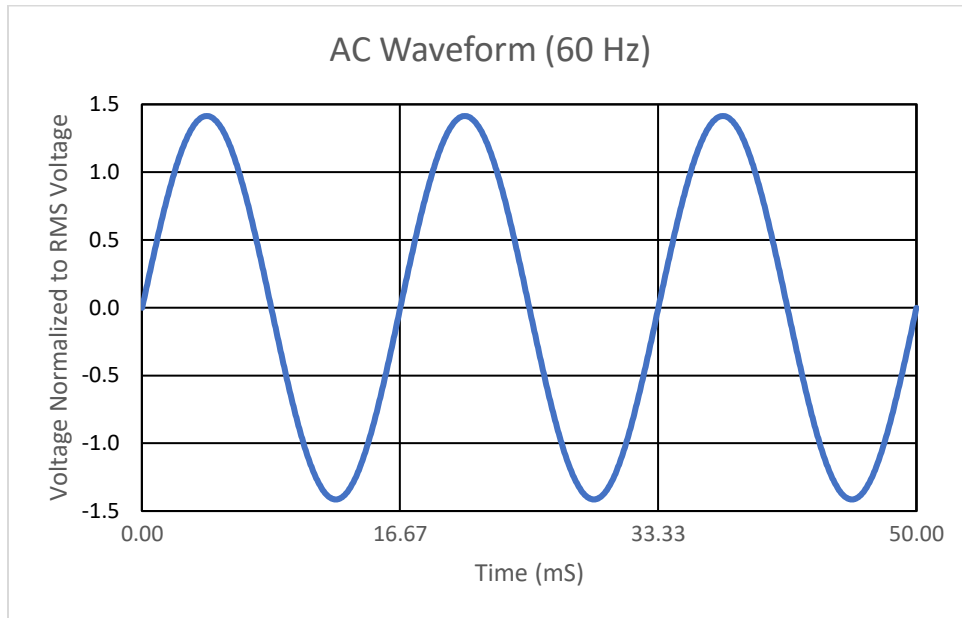

Figure 5: AC Voltage Waveform
In an alternating current (AC) system, the voltage source varies over time following a sinusoidal waveform as shown in Figure 5.
RMS stands for root-mean-squared. The RMS value of a sinusoidal waveform is 0.707 times the peak of the waveform. Figure 5 shows a sinusoidal waveform with an RMS value of 1 and a peak value of 1.41.